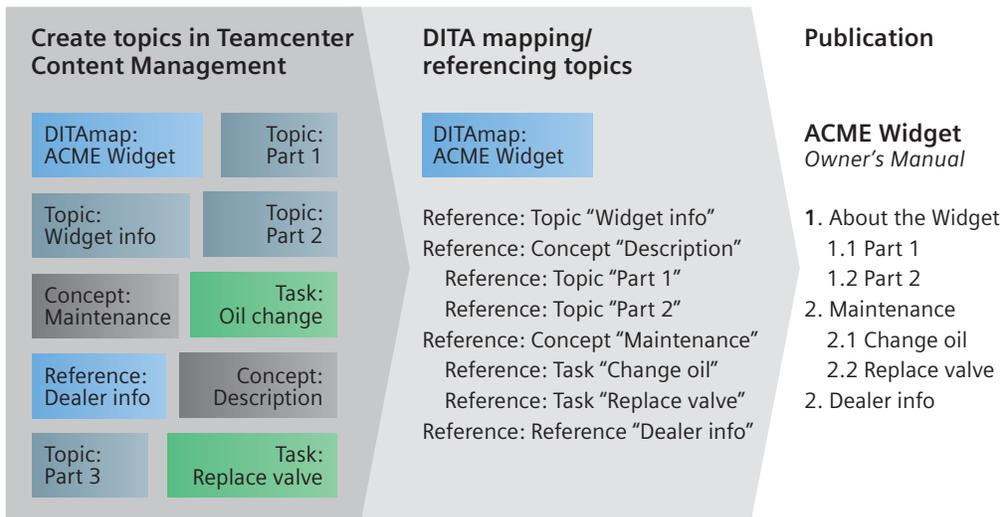

Figure 2. Principle of nested topic references in a DITA map.
**DITA maps** For structured documents that consist of nested information containers such as chapters and sections, DITA enables users to nest references to existing DITA topics in a DITA map. Figure 2 clarifies the principle of nested topic references in a DITA map.